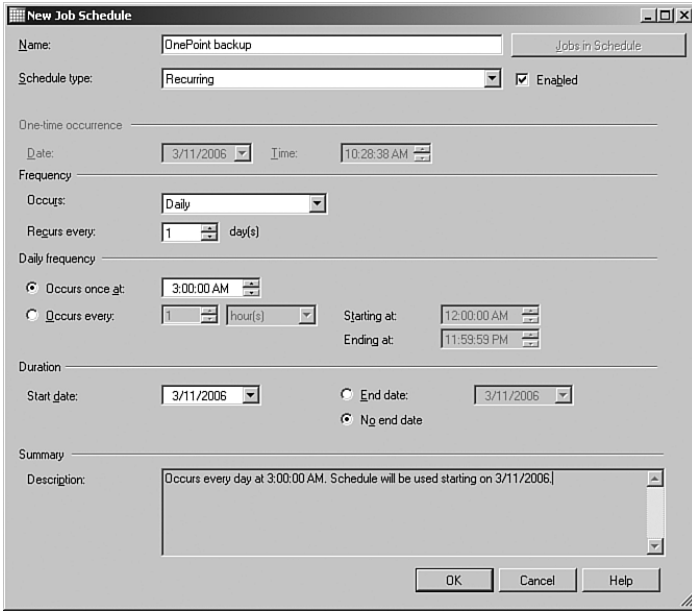

FIGURE 12.17 The recurring job schedule screen.
10. You can now define the details of the schedule. In Figure 12.17 we have scheduled a type of Recurring with a backup frequency of daily and a start time of 3:00 AM. After completing this screen, you can also specify Notifications and Targets as part of the job properties. Click OK to save the job.